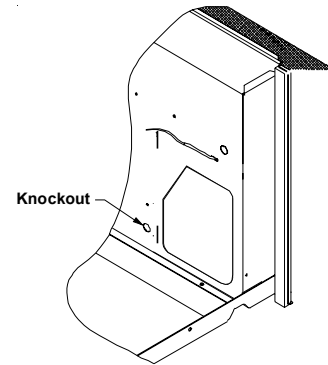

Figure 5
7. Remove the round sheet metal knockout from the partition panel near the bottom left of the vent door opening (Figure 5).
2. Reattach the vent door to the partition panel by inserting the vent door's metal tabs into the panel slots (Figure 5).